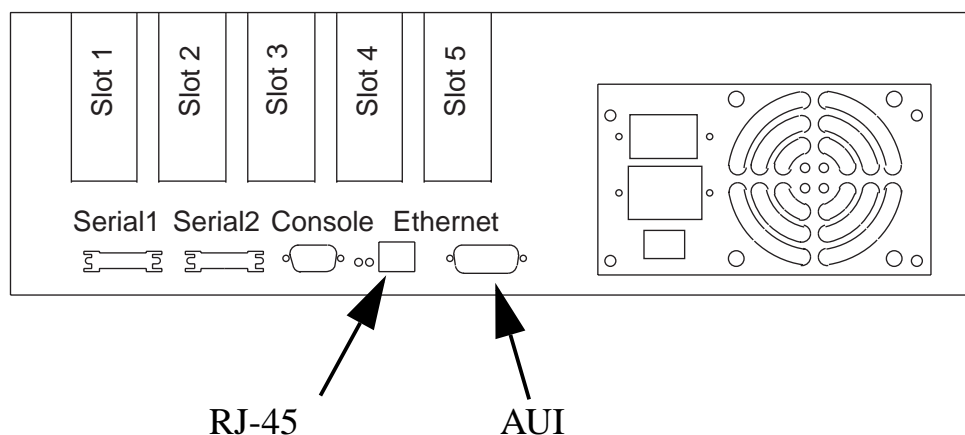

Figure 4 Ethernet connectors
2. Plug a Thin Ethernet AUI adaptor into the AUI connector (as shown in Figure 4) of your **MultiCom**.
3. Plug the other end into the RJ-45 connector on your **MultiCom LAN Access Center**, as shown in Figure 4.